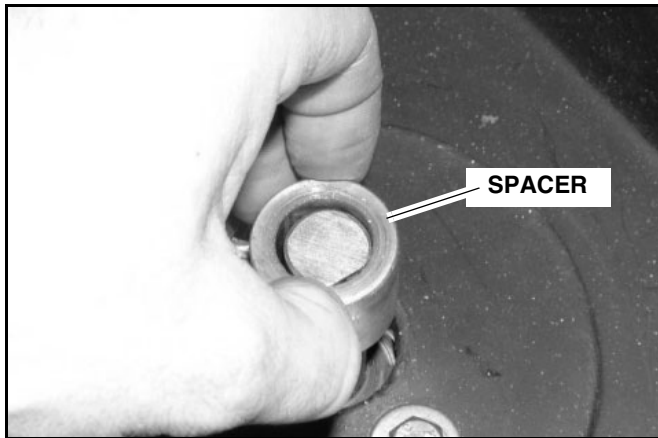

Figure 4
4. Remove spacer (See Figure 4).